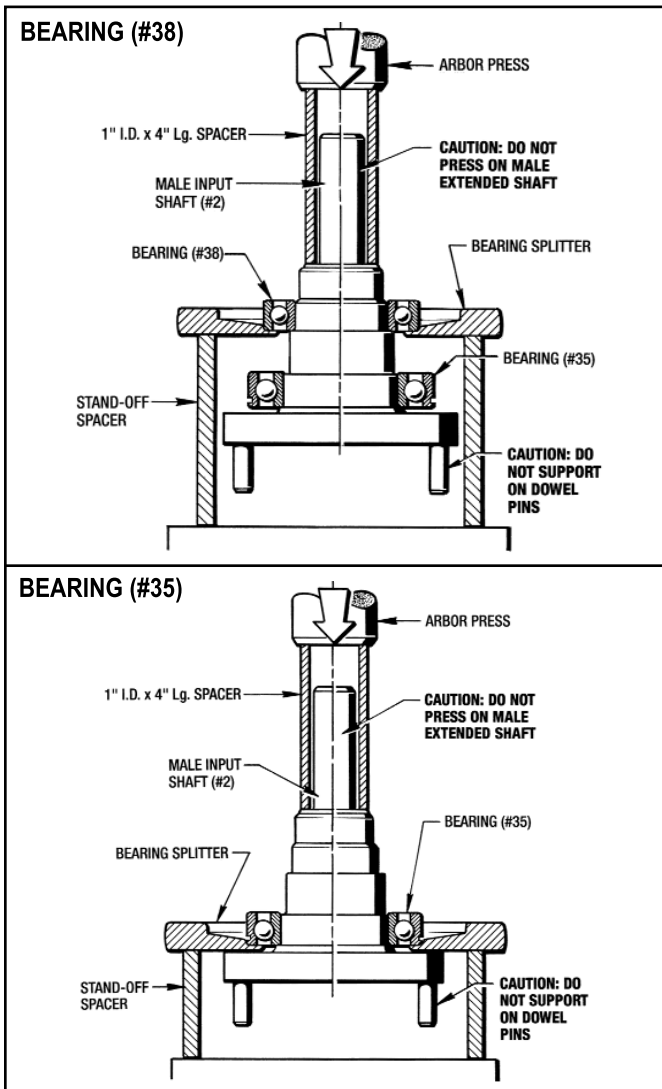

Figure 7.5 - Removing Bearings from Male Input Shaft
1. With an Arbor Press, Bearing Splitter and appropriate tooling first remove Bearing (#38) and then Bearing (#35) from the Input Shaft (#2). (See Figure 7.5.)